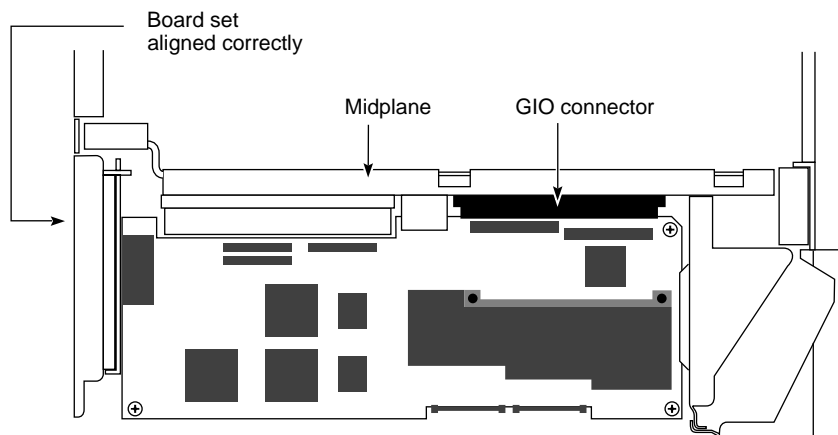

Figure 4-13 Correctly Aligned Board Set, Viewed From Above
5. Visually check to be sure the boards are completely seated in their connectors. The board set should not look tilted when viewed from above. See Figure 4-13.